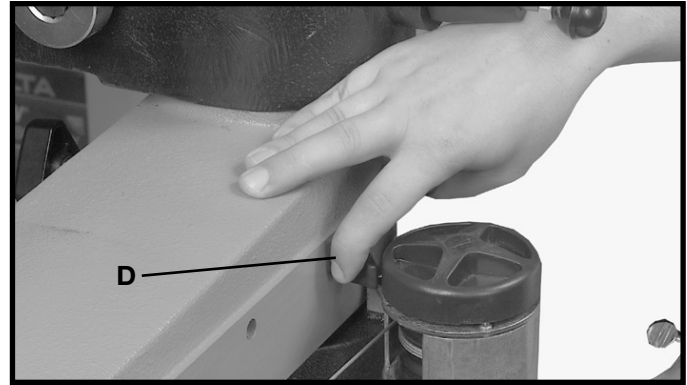

Fig. 50
2. To **DECREASE** cable tension, pull back on cable tension release knob (D) Fig. 50, until the desired tension is achieved.